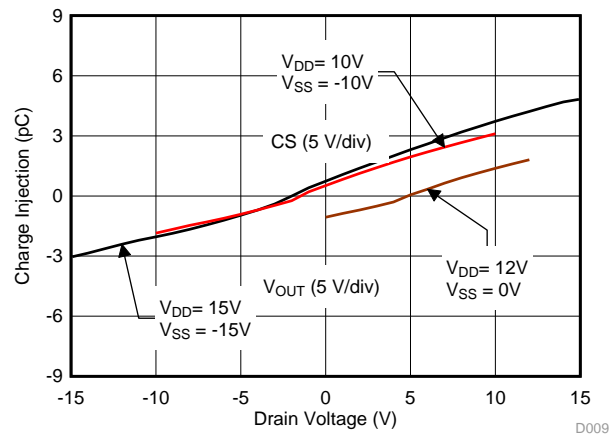

Figure 32. Drain-to-Source Charge Injection vs Drain Voltage
The drain (D)-to-source (Sx) charge injection becomes important when the device is used as a demultiplexer (demux), where the drain (D) becomes the input and the source (Sx) becomes the output. Figure 32 shows the drain-to-source charge injection across the full signal range.